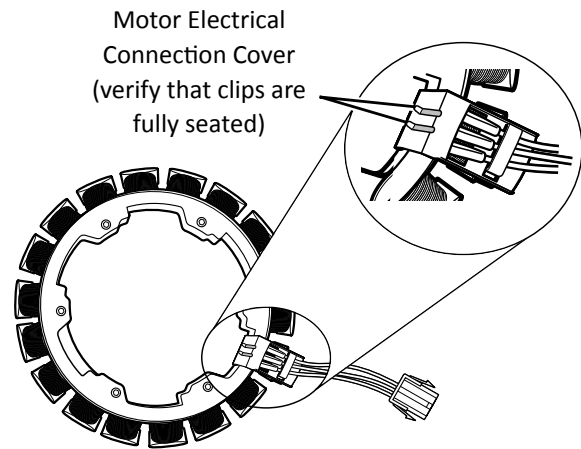

Figure 1 - Removing Shifter Coil and Checking Motor Electrical Connection
7. Tilt washer back to access the bottom of the washer and the drive motor area (see Figure 1, page 6-8).
13. Visually check that motor electrical connection cover is fully seated (see Figure 1).